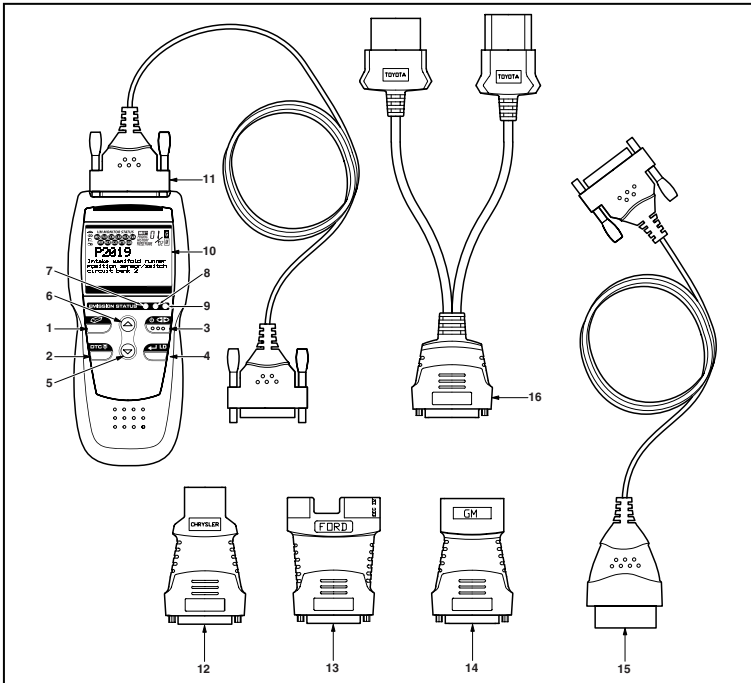

Figure 1. Controls and Indicators
See Figure 1 for the locations of items 1 through 16, below.